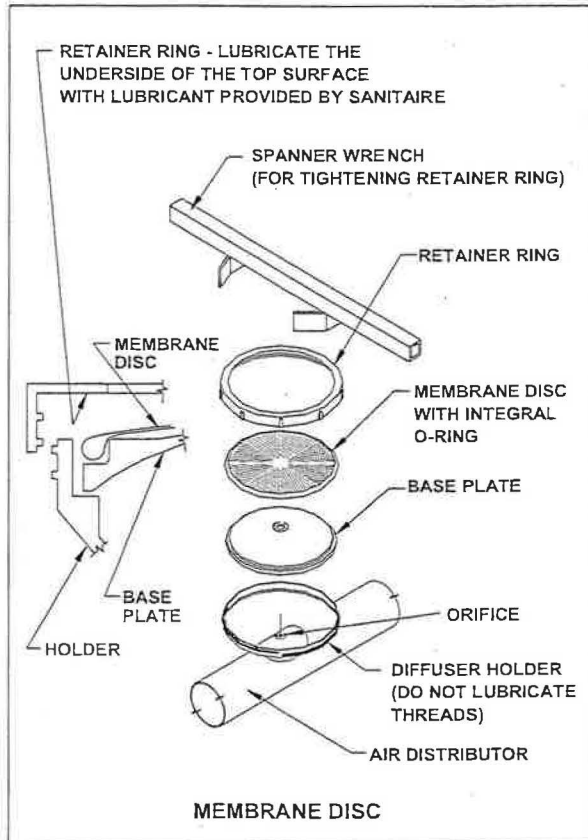

Figure 36
3. Lubricate the diffuser retaining ring with a small amount of lubricant provided by Sanitaire by turning the ring upside down and swabbing the lubricant on the underside of the top surface of the retaining ring. See Figure 36.